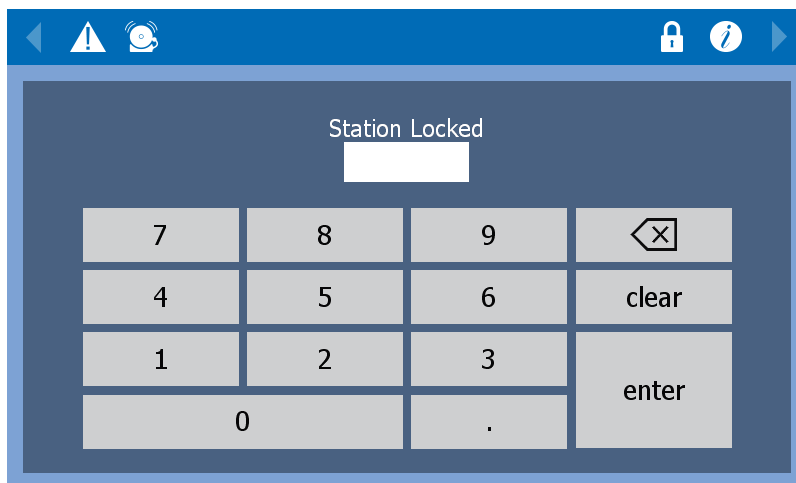

Figure 5.4-2: The Login Window w/ Entry Keypad
The user logs in by touching the edit box that says “Password” in gray letters. This brings up a keypad such as shown below in Figure 5.4-2. One enters the numeric password on this keypad and then clicks on the “enter” button. As one types, the key entries will be shown as asterisks (*) in the edit box. The other keys on the left are backspace (delete the last digit entered) and clear (delete all digits entered).
- (A) **Station Settings** – This is a list of properties that may be configured for the mic station or are useful to be reported, such as MAC addresses and version numbers.
- (B) **Window Close Control** – Touch this X to close the Alarm Status window. Alternately, touching anywhere on the icon bar above the window will close it.
- (C) **Lamp Test Button** – Touch this button to momentarily turn on all the station LEDs.
- (D) **(hidden) Configuration Button** – Touch this area in the lower right corner to bring up a password entry screen such as the one shown in Figure 5.4-2 to log into the mic station. To get into the configuration mode, one must enter the password: